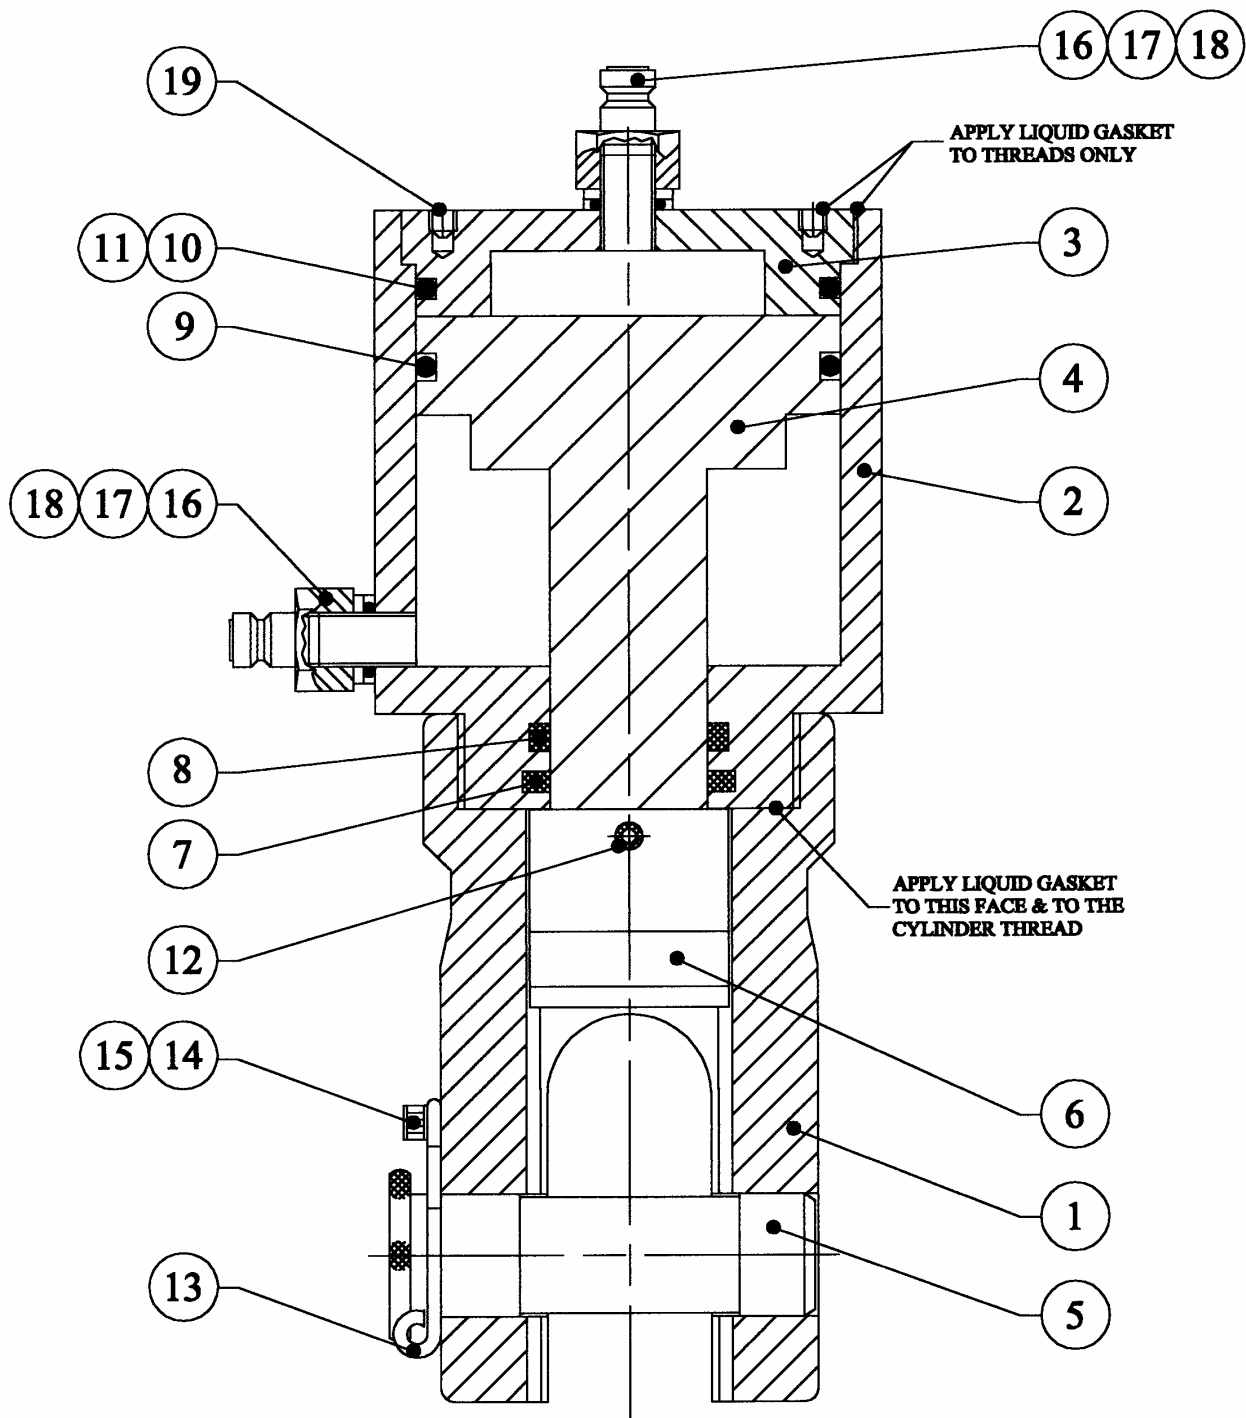

FIG. 2
Blade Renewal: (Numbers in brackets refer to Table 2 and Figures 2 & 3)
Cutter Disassembly: (Numbers in brackets refer to Table 2 and Figures 2 & 3)
Cutter Re-Assembly: (Numbers in brackets refer to Table 2 & Figures 2 & 3)
Make sure all parts are clean and smear all seals with grease before assembly. Fit the 2 off couplings (17), to cylinder (2). Add liquid gasket to the threads of the body (1) (see Fig 2), screw onto the cylinder (2) and tighten. Slide the piston (4) into the Cylinder (2). Rotate the slot in the end of the piston until it lines up with the keyways in the body and temporarily insert the blade (6) to maintain angular location. Hold in the retracted position. Add liquid gasket (see Fig 2) to the threads of the cylinder cap (3), screw into the cylinder (2) and tighten. Connect hose and then pump out piston until the hole for the retaining pin is visible through the body. Fit the retaining pin (12) then test the cutter ready for use.